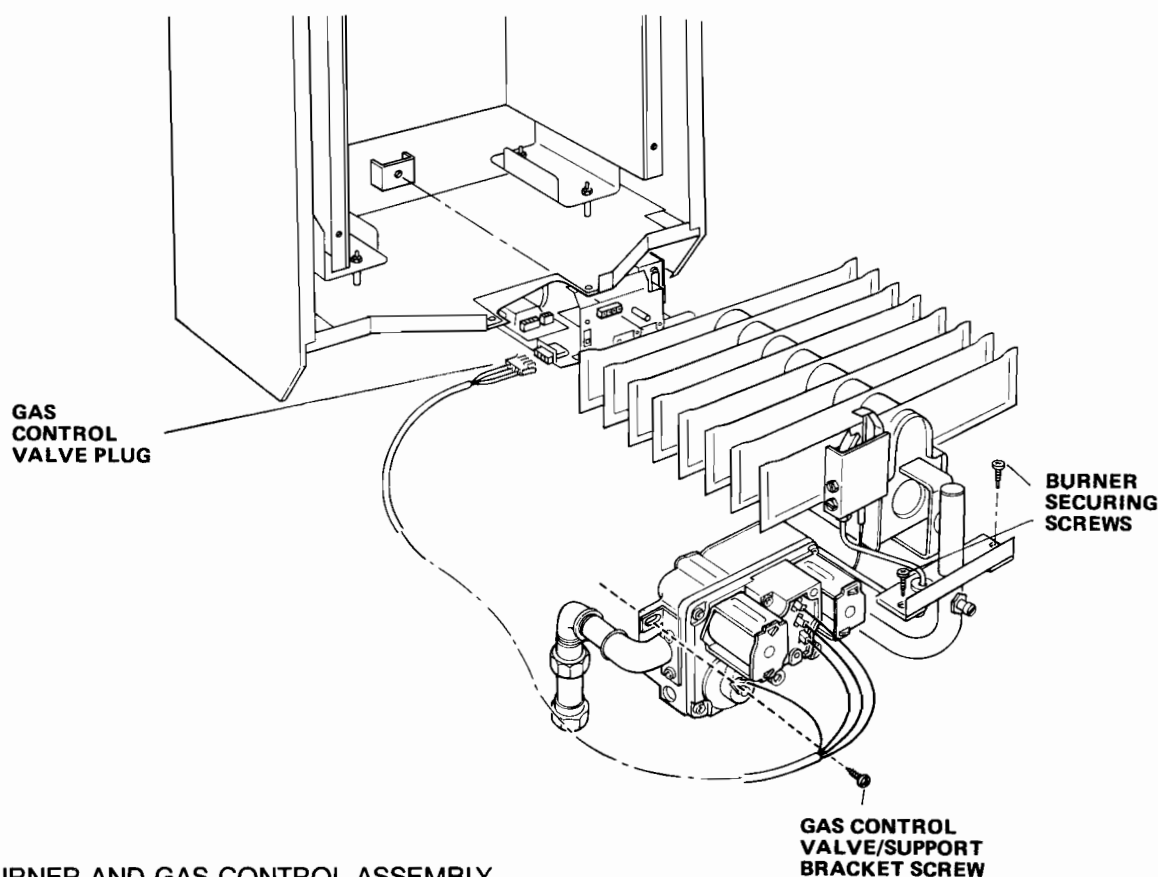

FIG. 29 BURNER AND GAS CONTROL ASSEMBLY
- J. Unplug the electrical supply leads for the gas control valve from the control box. See FIG. 29.
- K. Remove the screw securing the gas control valve to its support bracket. See FIG. 29.